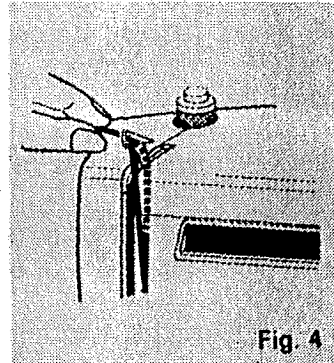
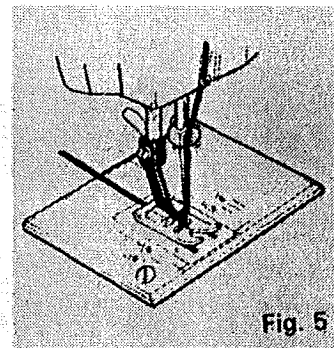

Fig. 4
Fig. 5
3) with thread in proper place. Release spool of thread and hook thread into take up lever as shown (Fig. 4). Continue to thread machine exactly as shown. Needle must always be threaded in direction as shown in Fig. 5.